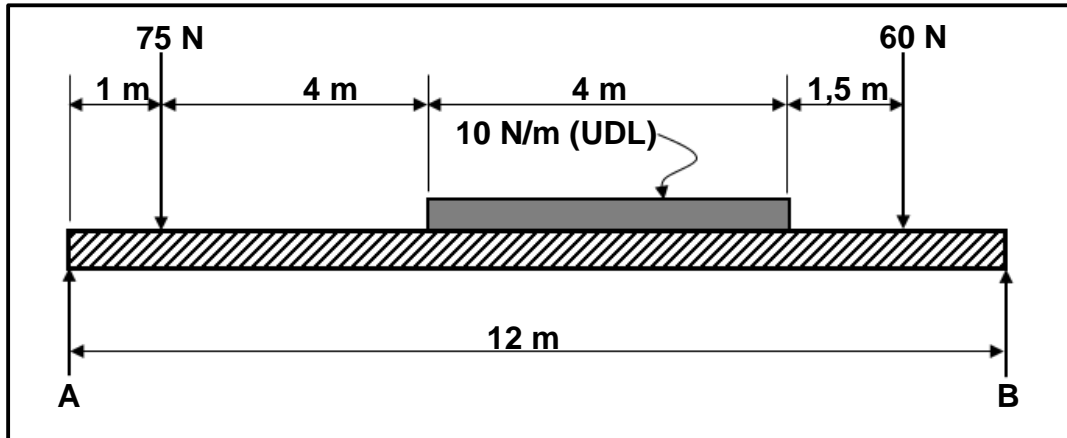

FIGURE 8.2
- 8.2 FIGURE 8.2 below shows a uniform beam supported by TWO vertical supports, **A** and **B**. Two vertical point loads and a uniformly distributed load (UDL) are exerted onto the beam.